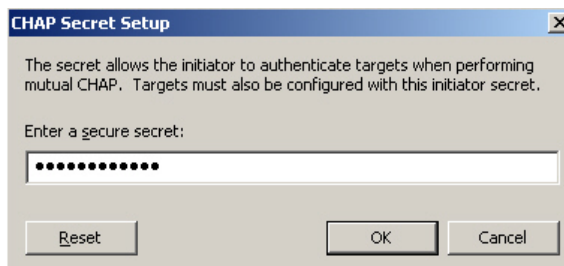

Figure A.6 CHAP Secret Setup Dialog Box
**Note:** CHAP is a protocol for authenticating the peer of a connection and is based upon the peers sharing a secret (a security key similar to a password). The CHAP secret is case sensitive. The length of the secret key must be from 12 (96 bits) to 16 characters. For security, each typed letter appears as a dot (see Figure A.6).